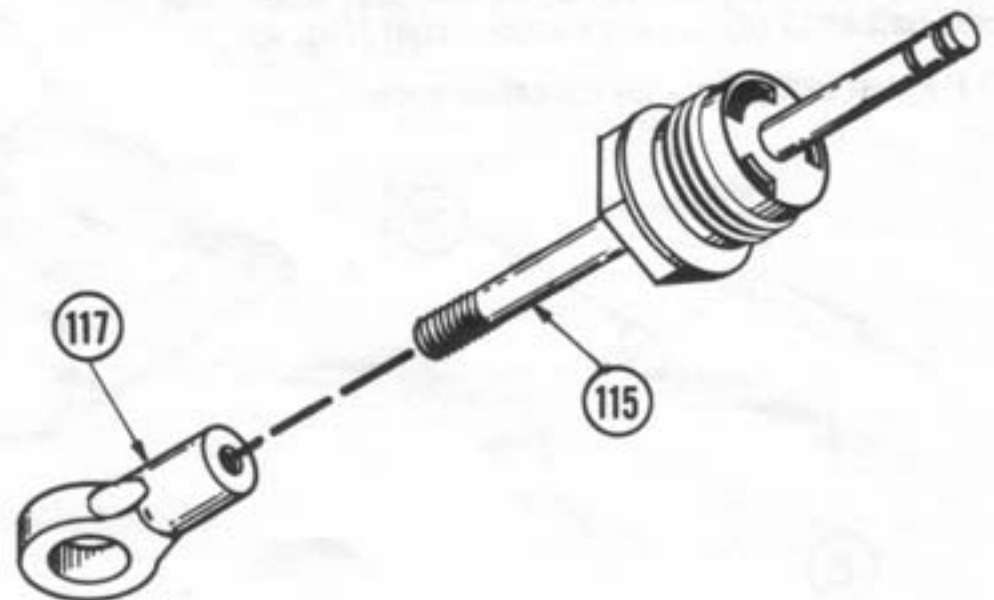

Figure 45
4. Using needle nose pliers, grasp the shock shaft [Front (115), rear (116)] between the grooves and thread into lower shock mount (117). Fig. 45